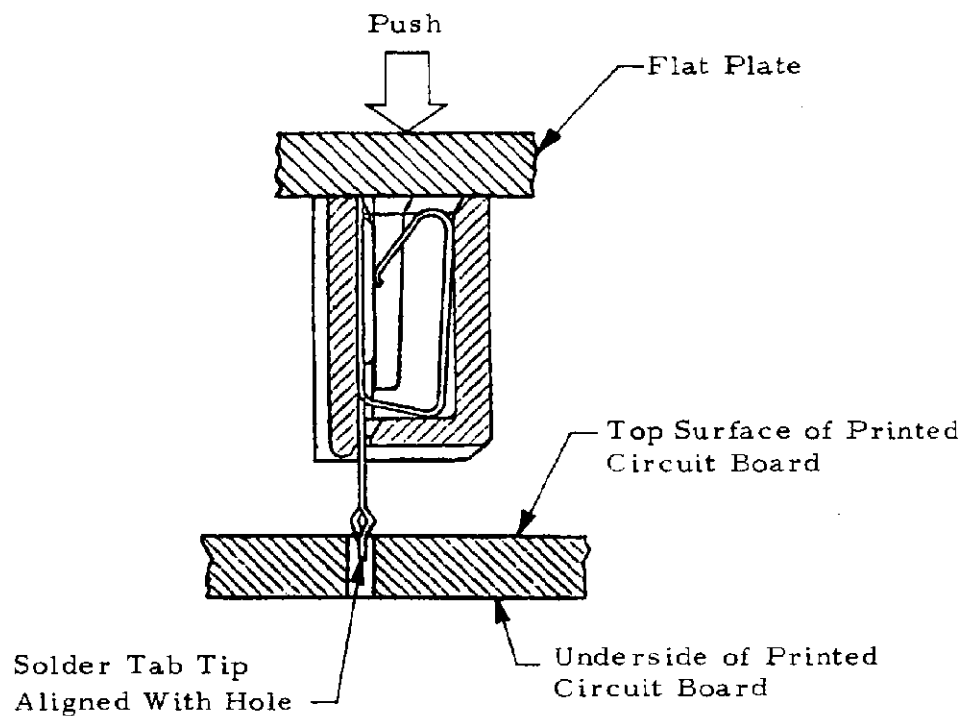

Figure 7
- (1) Align solder tab tips with holes in printed circuit board as indicated in Figure 7.
- (2) Place a flat plate over cable entry portion of connector.
- (3) Apply pressure perpendicular to plate and printed circuit board until connector snaps into position and rests on surface of printed circuit board.
- (4) Connector shall be tight against top surface of printed circuit board and all solder tabs shall protrude from underside.